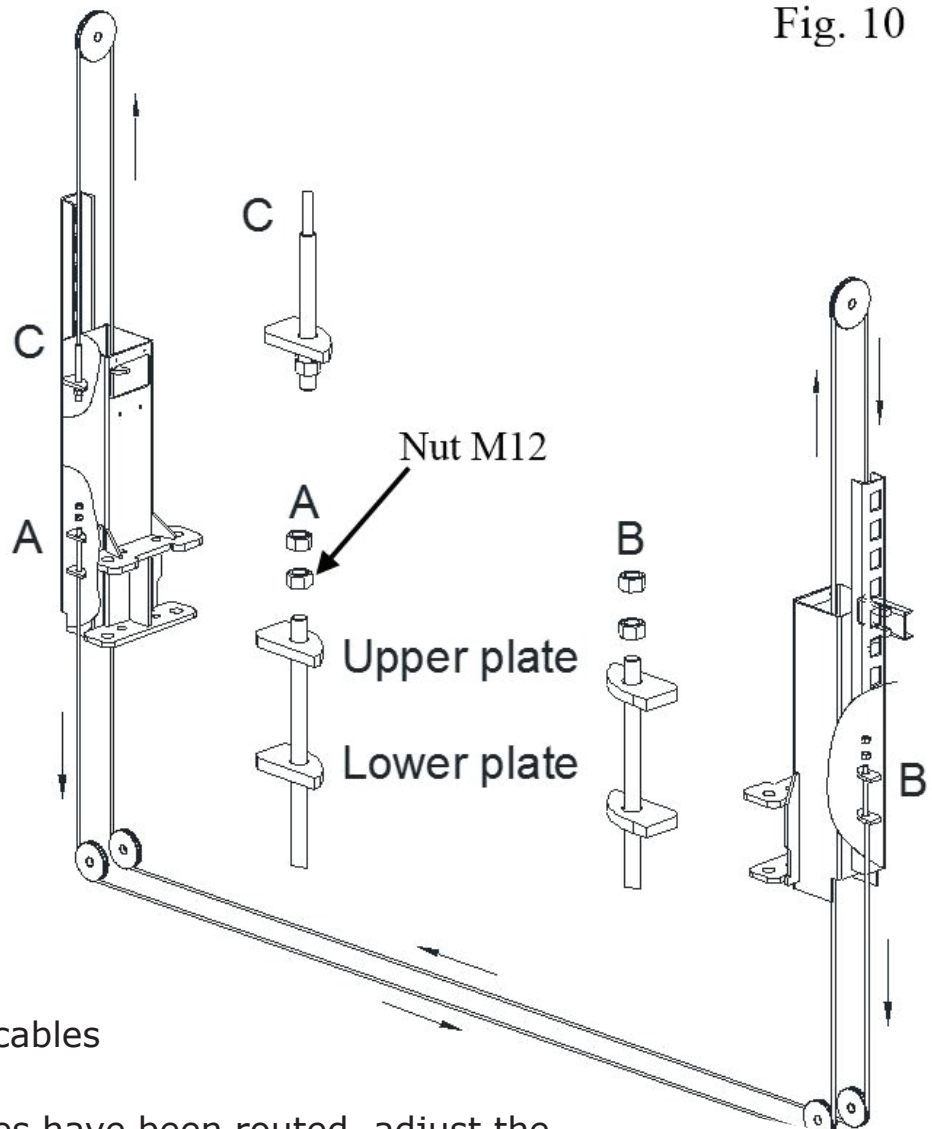

Fig. 10
- With the carriages in equal height, fit the cable end-ups through the small holes of the carriages (ref. fig. 10):
- Route the equalizer cables referring to the diagram (fig. 10). Make sure the cables in the place on the pulleys. Make sure the cables routed properly;